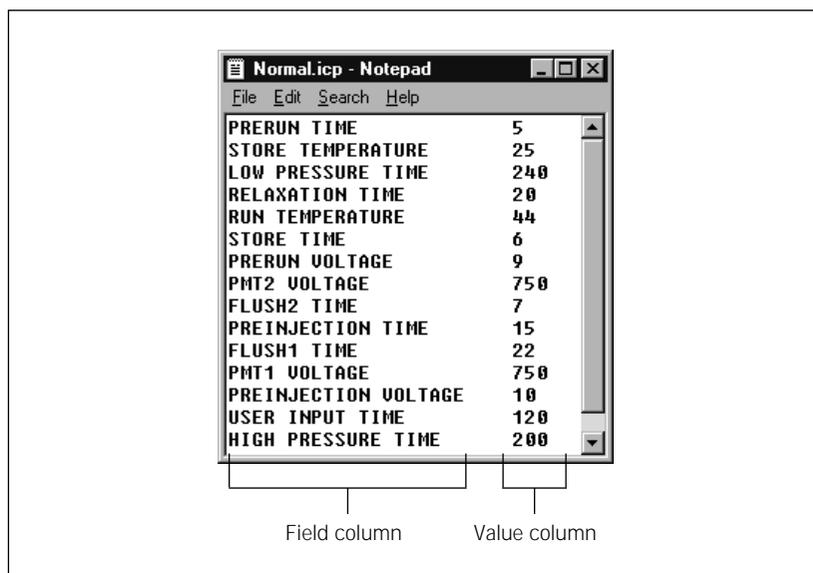

Figure 5-7. A sequencing example of an instrument control parameter template file (.icp) created using Notepad.
You can create and save instrument control parameter templates (.icp) using the Instrument Control window (section 4.3). You can also create an .icp file in a two-column format in Excel or in any text editor using tabs as column separators. See section 5.2 for a description of the file format. You must use the field names that the Instrument Control Manager recognizes and type them in the first column (field column) as shown in figure 5-7. You type the values for each field in the second column (value column). The Instrument Control Manager uses the values only for the fields it recognizes. See table 4-1 for a list of the parameter (field) names and a description of the expected values.
2. If you are modifying an existing .icp file, edit the fields. If you are starting with a new document, type two columns separated by a tab (figure 5-7) or two columns using Excel (figure 5-8).